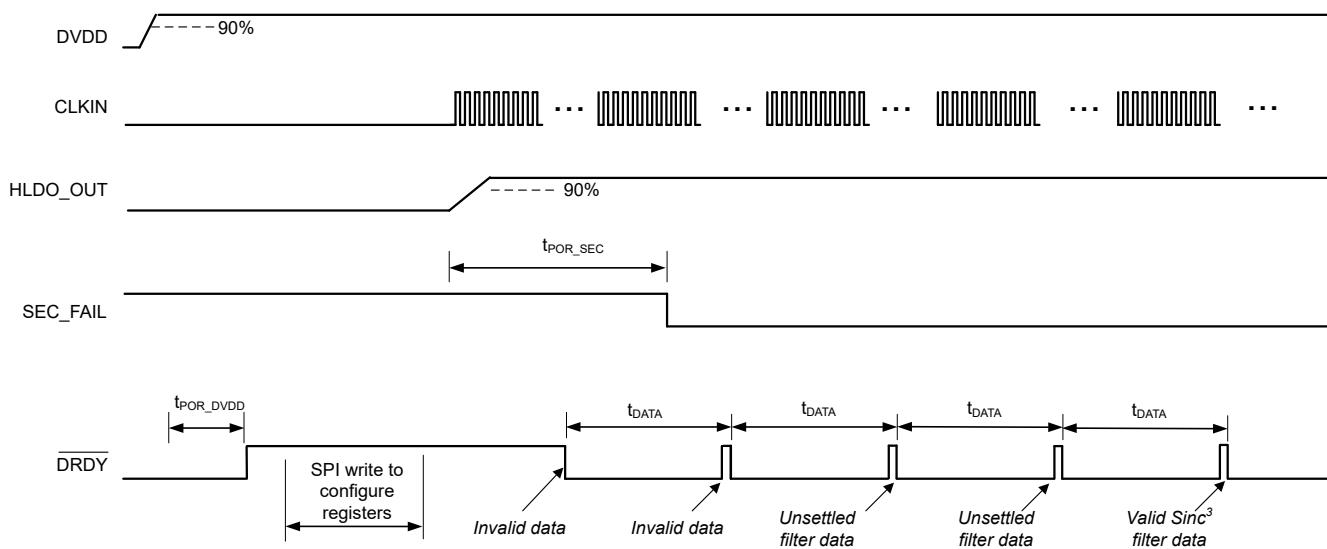
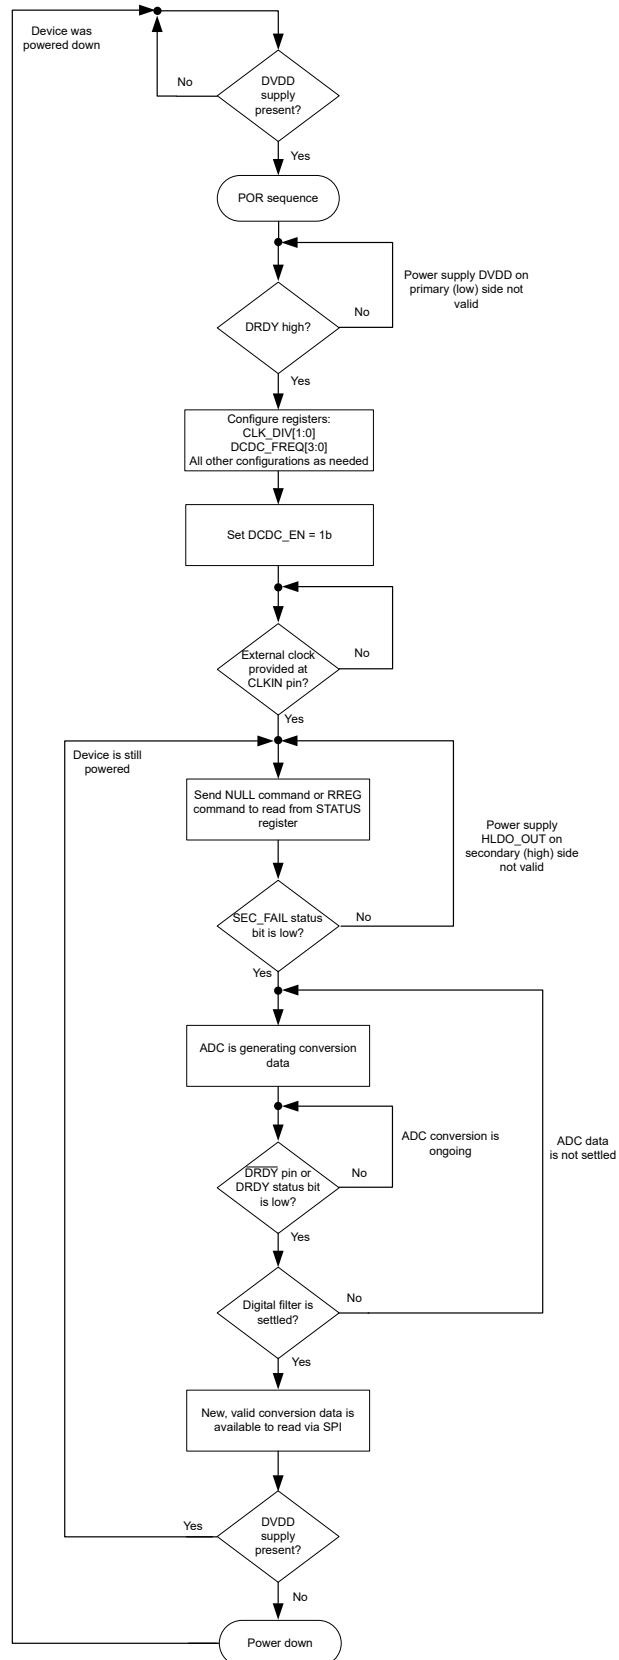

Figure 8-18. Start-Up Behavior at Power-Up and Settling Times, OSR = 1024
Figure 8-19. Flow Diagram for Start-Up Procedure at Power-Up
A recommended procedure for powering up the AMC131M03-Q1 is described in this section. Figure 8-18 depicts a timing diagram for the device behavior when this recommended sequence is used. Figure 8-19 provides a flow diagram that displays the recommended sequence in a graphical form.
- The high-to-low transition of \overline{DRDY} indicates that new conversion data are available. As given in Figure 8-18, ADC data are only valid if the SEC_FAIL reads 0b during the conversion period. The first two conversion results shown in Figure 8-18, represent invalid data.
- When the ADC generates valid data, the digital filter must settle, as described in the SINC³ and SINC³ + SINC¹ Filter section. Two subsequent conversion results illustrated in Figure 8-18 are unsettled (assuming OSR equals 1024), and the last conversion result shown provides valid and settled data.
In Figure 8-18, t_{POR_SEC} is the time from enabling the DC/DC converter to the first falling edge of the SEC_FAIL bit, which indicates that the secondary power supply at the HLDO_OUT pin is stable. t_{POR_DVDD} is the time from DVDD supply at 90% to \overline{DRDY} first rising edge.